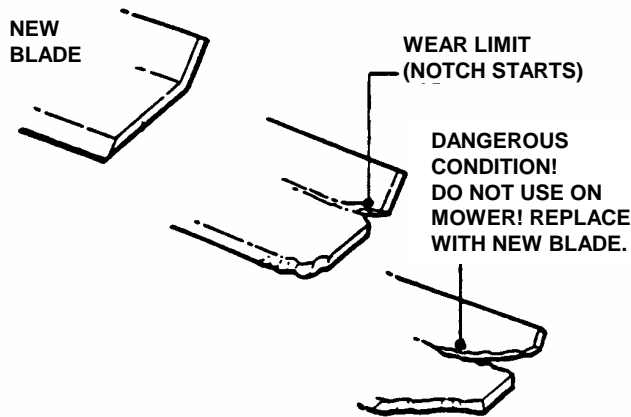

FIGURE 4.1
1. Inspect blade frequently for signs of excessive wear or damage. See Figure 4.1.
2. Replace the blade if it is badly chipped, bent, noticeably out of balance or has cracks or notch in either tip. See Figure 4.1 & 4.2. Replace with new blade.
- Reinstall blade. Refer to Figure 4.1. Check torque of blade retaining cap screw. Recommended torque should be 30 to 40 ft. lbs.